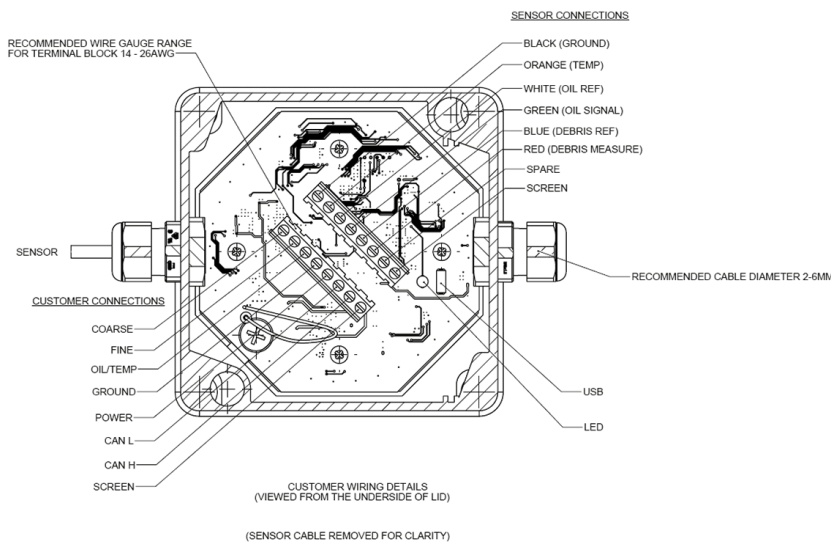

Fig 1
- Remove the display electronics cover as shown in Fig 1. Using a Phillips screwdriver
- Replace the display electronics cover and gasket as shown in Fig 1 to a tightness of 4Nm +/- 0.4Nm during re-assembly.